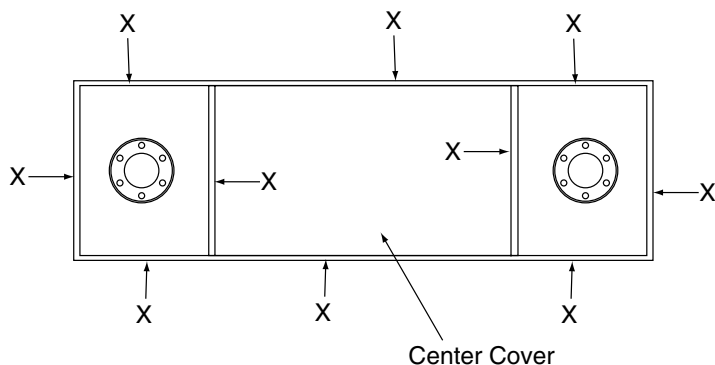

Fig. 18
- IMPORTANT** Clean areas indicated with X, Fig. 18, and seal with a premium 25 year silicone.